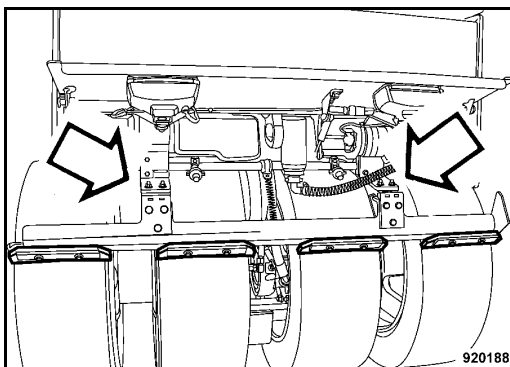

Fig. 152
- Open the rear flap, check the scrapers, replace if necessary (Fig. 152).